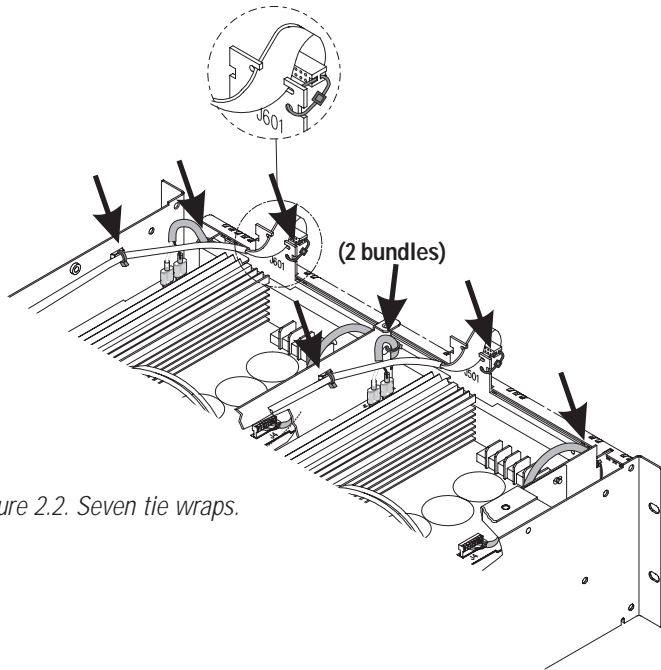

Figure 2.2. Seven tie wraps.
5. Cut the tie wraps in the seven locations shown in Figure 2.2.